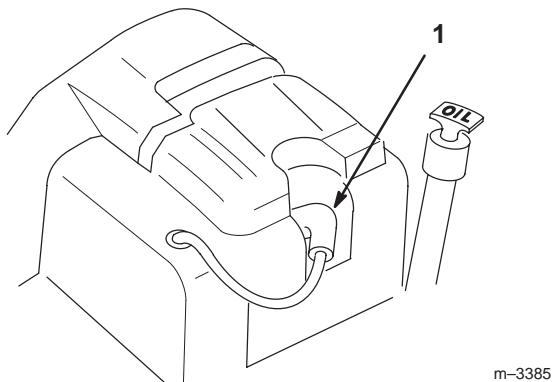

Figure 27
3. Pull the wire(s) off the spark plug(s) (Fig. 27). Now clean around the spark plug(s) to prevent dirt from falling into the engine and potentially causing damage.
3. Push the wire(s) onto the spark plug(s) (Fig. 27).